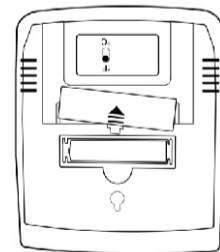

Figure 2
1. Open the battery compartment located in the back of the instrument in agreement with the figure 2.